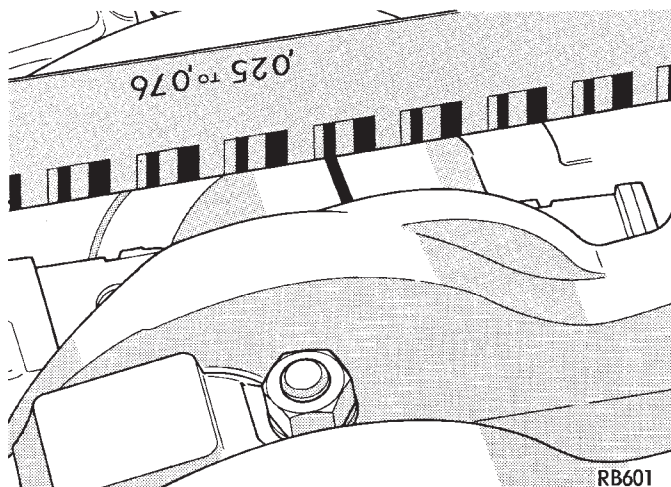

Fig. 7 Measuring Bearing Clearance with Plastigage
- (1) Remove oil from journal and bearing shell.
- (2) Install crankshaft.
(3) Cut plastigage to same length as width of the bearing and place it in parallel with the journal axis (Fig. 7).
(5) Carefully remove the bearing cap and measure the width of the plastigage at the widest part using the scale on the plastigage package (Fig. 7). Refer to specification (Fig. 5) for proper clearances. If the clearance exceeds the specified limits. Replace the main bearing(s) and if necessary have the crankshaft machined to next undersize. Also see Measuring Main and Connecting Rod Bearing Clearance in Standard Service Procedures.